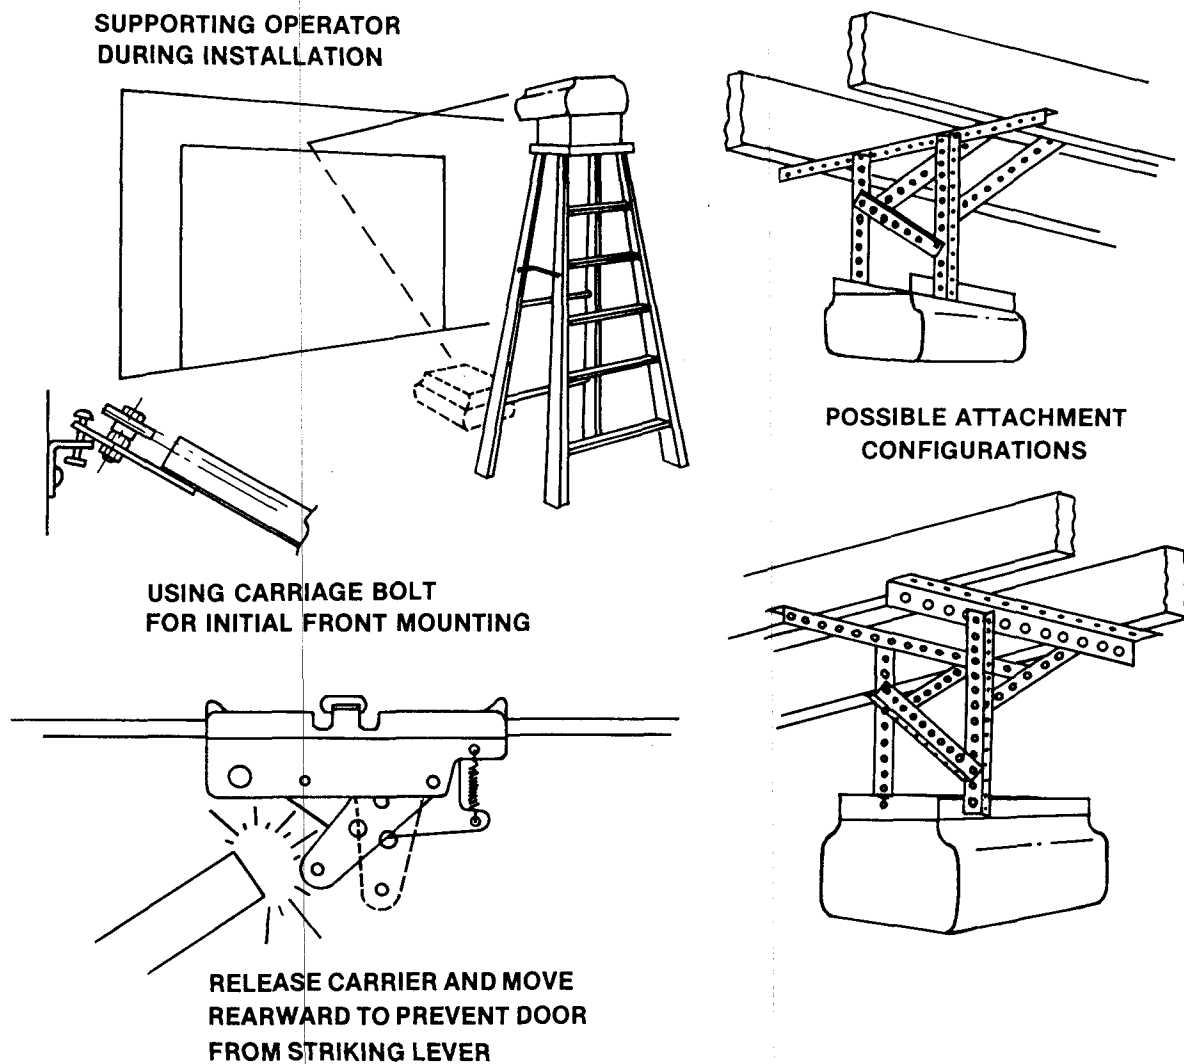

FIG. 5
**STEP 5.** A rear mount must be constructed to secure the rear of the operator to the ceiling. The distance from the operator to the ceiling structure can be measured at this time to determine the approximate length of perforated angle iron or other suitable metal required to suspend the operator. The operator frame plate is 6-1/2" wide. The vertical supports should be 3-1/4" from each side of the center line. (See Fig. 5 for an example of possible structures). The mount must be braced to minimize lateral movement in all directions.
**STEP 3.** Place the front end of the rail on the bracket attached in **STEP 2**, and drop one of the 1/4" x 2" carriage bolts through the hole in the end of the rail and the center hole in the bracket. (See Fig. 5). Run one of the 1/4" nuts on the end of the bolt a few turns. This will temporarily hold the rail in place while the back end is swung upward and rested on a step ladder. **CAUTION: IF ADDITIONAL HEIGHT IS REQUIRED, BE CERTAIN THAT THE MEANS USED PROVIDES A STURDY AND STABLE NON-SKID PLATFORM. PULL THE CARRIER RELEASE ARM TO A VERTICAL POSITION AND SLIDE THE OUTER HALF OF THE CARRIER TO THE REAR OF THE RAIL. THIS WILL PREVENT THE DOOR FROM STRIKING THE LEVER.** At this time the door can be opened to its high arc position. It will be necessary to support the door so that it will remain in this position. Position the rail over the center of the top section of the door.
**STEP 4.** A rear mount must be constructed to secure the rear of the operator to the ceiling. The distance from the operator to the ceiling structure has already been determined in **STEP 3**. Measure and cut the appropriate length of perforated angle iron or other suitable metal required to suspend the operator. The operator frame plate is 6-1/2" wide. The vertical supports should be 3-1/4" from each side of the center line. (See Fig. 5 for an example of a possible construction). Construct the mount and secure it to the structure in the ceiling. Secure the operator to the mount. The mount must be braced to minimize lateral movement in all directions.